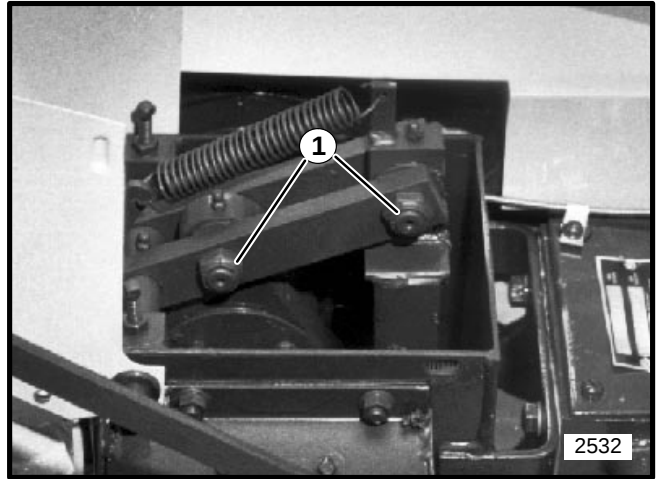

FIGURE 25
6. Remove the two (2) nuts securing right side rocker arm. Slide rocker arm out until the arm can be turned back towards the rear of unit. See Figure 25.